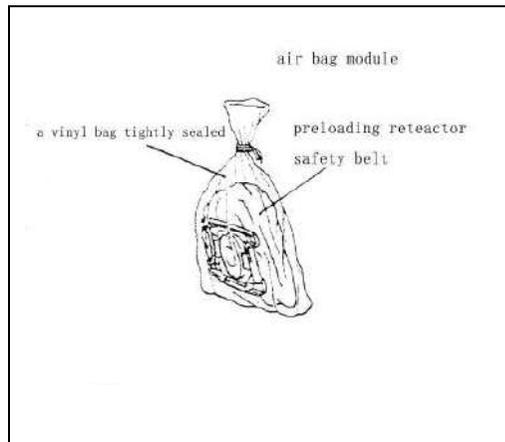

Fig 19-56
4) Discard the air bag module and preloading retractor safety belt in a vinyl bag tightly sealed.(See fig 19-56)